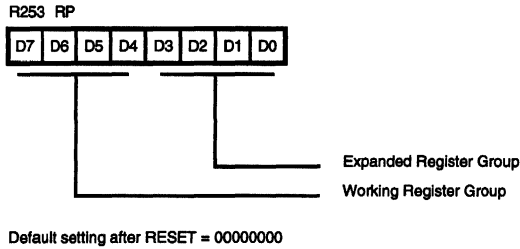

Figure 9. Register Pointer Register
Bits 3-0 of the Register Pointer (RP) select the active ERF group. Bits 7-4 of register RP select the working register group (Figure 9). Three system configuration registers reside in the Expanded Register File at bank F (PCON, SMR, WDTMR). The rest of the Expanded Register is not physically implemented and is open for future expansion.
Register File. The register file consists of three I/O port registers, 236/124 general-purpose registers and 15 control and status registers and three system configuration registers in the expanded register group (See Figure 8). The instructions can access registers directly or indirectly through an 8-bit address field. This allows a short 4-bit register address using the Register Pointer (Figure 9 and 10). In the 4-bit mode, the register file is divided into 16 working register groups, each occupying 16 continuous locations. The Register Pointer addresses the starting location of the active working register group. The general-purpose registers on device power-up are undefined.